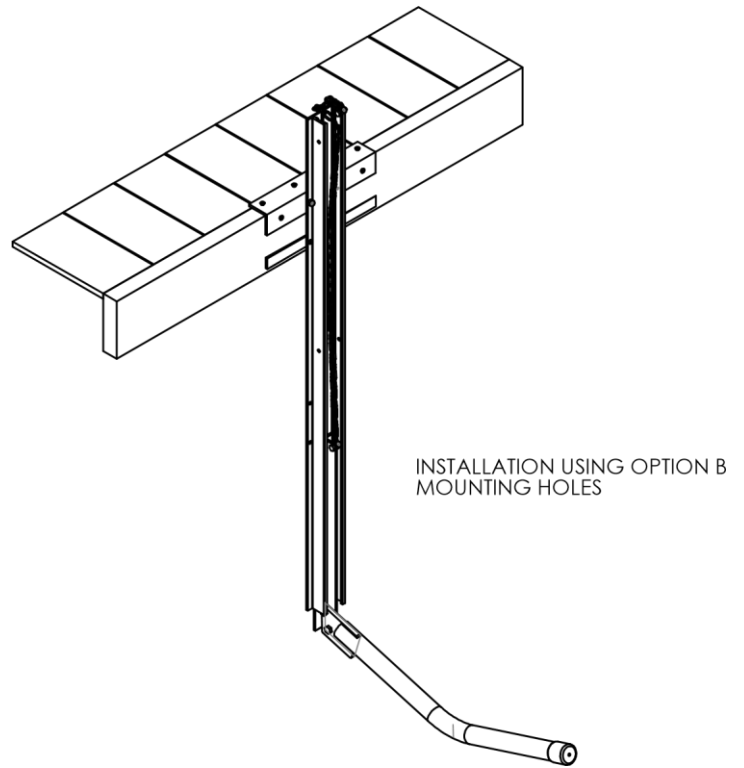

FIGURE 3
1. There are two sets of mounting holes in the mast flange. Determine which set of holes is optimal for your dock. If the distance from the top of the dock to the top of the water at its lowest point is 0" to 30", use the lower set of mounting holes **Option A** on FIGURE 1. See the installed on dock example in FIGURE 2. If the distance from the top of the dock to the top of the water at its lowest point is 30" to 42", use the upper set of mounting holes **Option B** on FIGURE 1. See the installed on dock example in FIGURE 3.